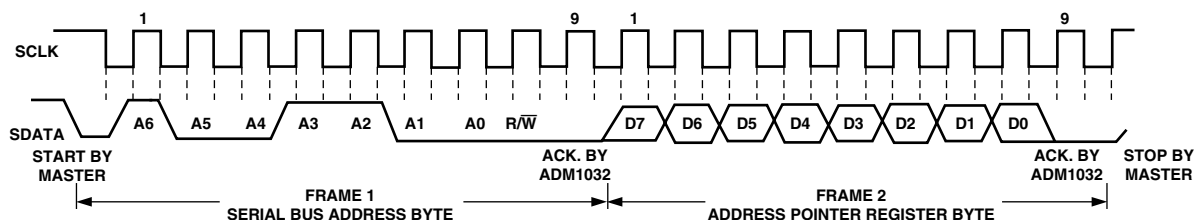

Figure 3b. Writing to the Address Pointer Register Only
address is sent, since data is not to be written to the register. This is shown in Figure 3b.
2. If the Address Pointer Register is known to be at the desired address already, data can be read from the corresponding data register without first writing to the Address Pointer Register and Figure 3b can be omitted.